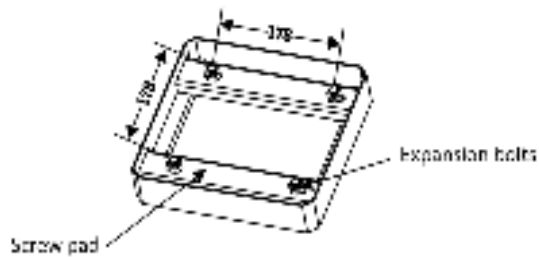

Figure 2-2
- 2) Drive four expansion bolts into the bolt holes, as shown in Figure 2-2.